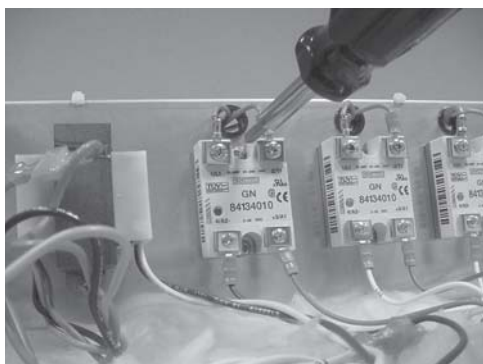

Figure 3-19
8. Using a Phillip's head screwdriver, remove the 2 screws securing the relay and remove relay from unit. Figure 3-19.